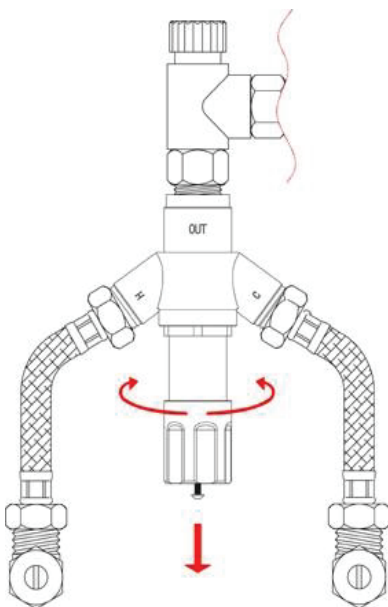

FIGURE 4
- To adjust the setting of the valve, loosen locking cap screw with a Phillips head screwdriver as shown in Figure 4. Cap must be lifted at least 4mm to adjust temperature.